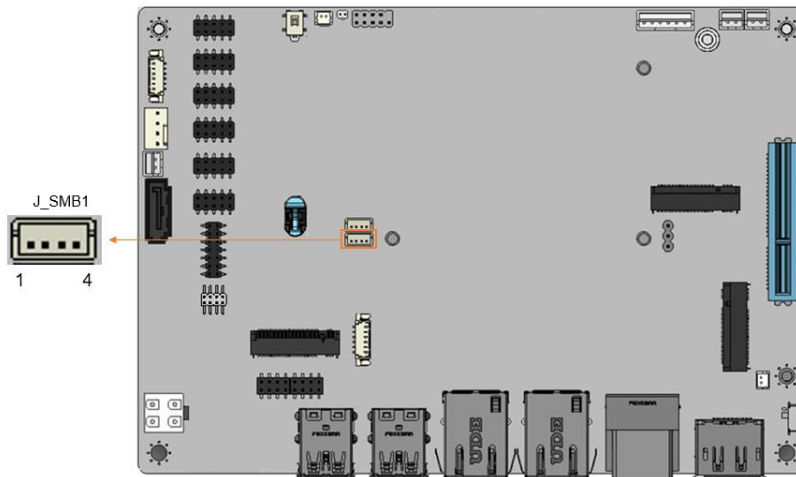

Figure 3-14: SMBus Connector Location
- CN Location:** See **Figure 3-14**